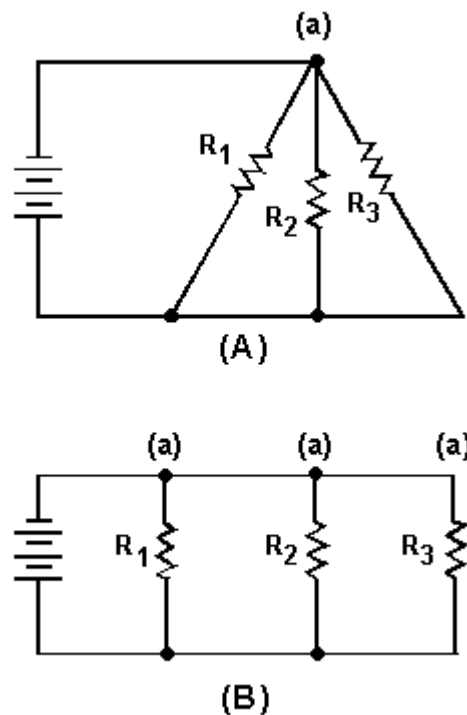
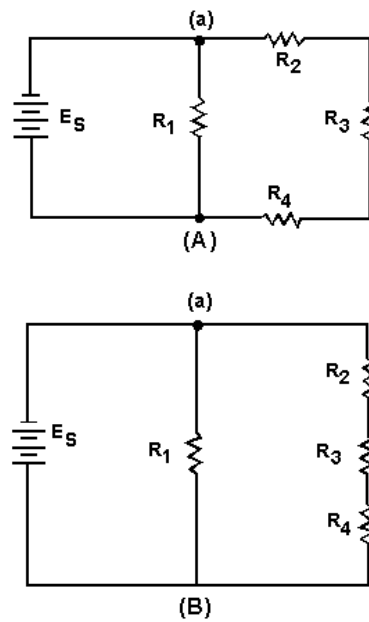

Figure 3-56.—Redrawing a simple parallel circuit.
Figure 3-57.—Redrawing a simple series-parallel circuit.
Figure 3-56(A) is a schematic of a circuit that is not drawn in the box-like fashion used in previous illustrations. To redraw this circuit, start at the voltage source and trace the path for current to the junction marked (a). At this junction the current divides into three paths. If you were to stretch the wire to show the three current paths, the circuit would appear as shown in figure 3-56(B).
While these circuits may appear to be different, the two drawings actually represent the same circuit. The drawing in figure 3-56(B) is the familiar box-like structure and may be easier to work with. Figure 3-57(A) is a schematic of a circuit shown in a box-like structure, but may be misleading. This circuit in reality is a series-parallel circuit that may be redrawn as shown in figure 3-57(B). The drawing in part (B) of the figure is a simpler representation of the original circuit and could be reduced to just two resistors in parallel.